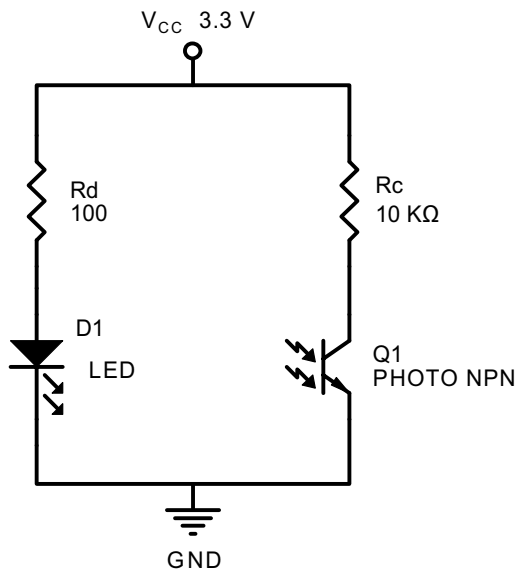
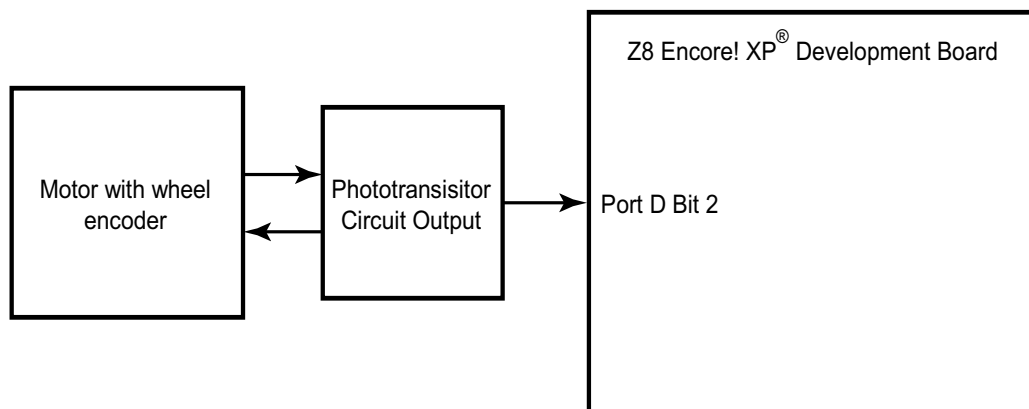

Figure 1. Circuitry for Photoreflexive Sensor
Figure 4. Hardware Block Diagram for Z8 Encore! XP Tachometer
Appendix B—Alexan IR Emitting Diode on page 8 and Appendix C—Alexan WPT-440F IR Photo Transistor on page 10 provide data sheets for IR Emitting Diode (Module No: IE-0575HLG) and the phototransistor (Module No: WPT-440F), respectively. Figure 1 displays the circuitry for the photoreflexive sensor using these devices.
(Module no: IE-0575HLG). The photoreflective sensor detects the infrared light reflected by the wheel encoder. Figure 4 displays the hardware block diagram for the Z8 Encore! XP[®] tachometer.
This section provides details for testing the functionality of the Z8 Encore! XP MCU based tachometer. Figure 4 on page 3 displays the setup diagram. For schematics and more details on the Z8 Encore! XP Development Board, refer to *Z8 Encore! Flash Microcontroller Development Kit User Manual (UM0146)*. The compiled code, available in AN0183-SC01.zip file (available for download at www.zilog.com), is downloaded to Z8 Encore! XP MCU Flash memory using the ZDS II IDE for Z8 Encore! v4.8.0¹
1. Connect the Z8 Encore! XP-based tachometer circuitry (see Figure 1 on page 2 and Figure 4 on page 3).